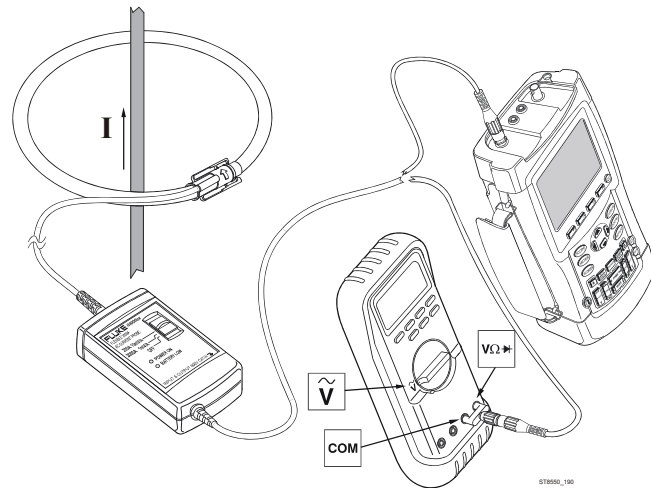

Figure 5. Measurement Setup
1. Connect the BNC connector of the i2000flex to the desired input on the measuring instrument. When you are using a multimeter, use the Dual Banana to BNC Adapter (PM9081/001) to connect the i2000flex to the input. (See Figure 5.)